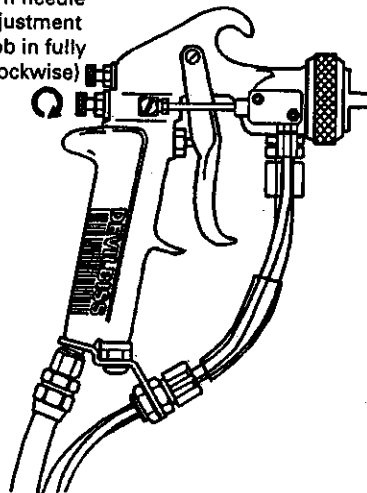

Figure 3
The air cap pressure can be measured using the optional air cap test kit (see pg.11, ACCESSORIES). Before measuring the air cap pressure, turn the needle adjustment knob in fully clockwise, to shut off adhesive flow (Figure 3).
1. Open ball valve on activator tank. Insure needle adjustment knob is turned fully clockwise, shutting off adhesive flow (Figure 3).